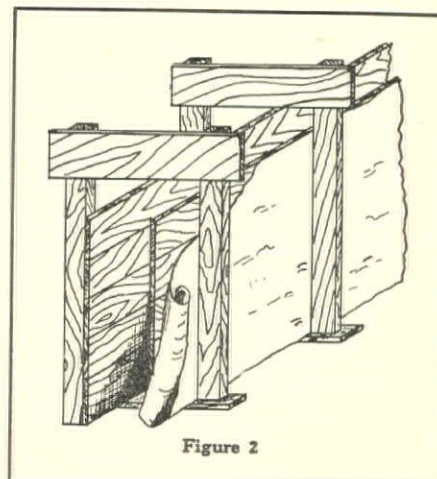

Figure 2
**C**ANVAS hung over the sides of the forms or paper lining on outside of them adds considerably to the protection of the concrete (Fig. 2).